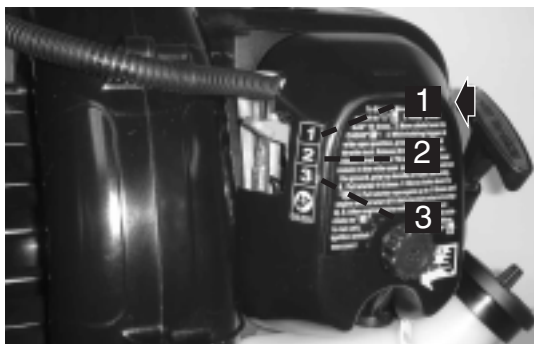

Fig. 9
2. Your unit is designed with a 3 position choke: FULL CHOKE "1", PARTIAL CHOKE "2", and RUN "3". Move choke lever to FULL CHOKE "1" position. (Figure 9)